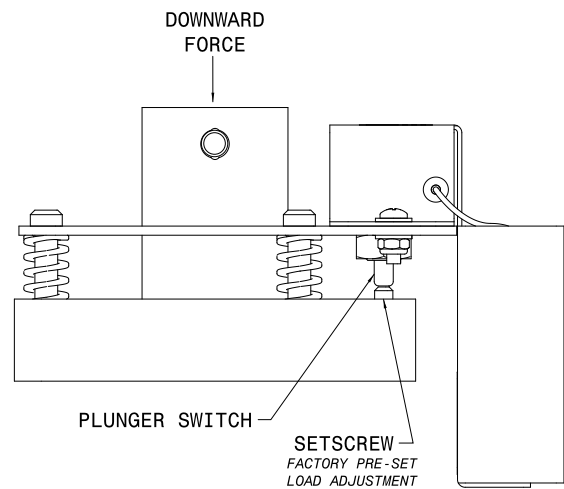

Figure 2
1. Depress the plunger switch to check electronic circuit. The alarm will sound when the switch is engaged. (see Figure 2)
2. Test alarm by slowly applying an evenly distributed force of 100 to 150 lbs (45.36 to 68.04 kg) across the top of the cradle. The top plate of the load alarm kit will lower and engage the plunger switch, A loud pulsating alarm will then sound. If alarm does not sound, refer to the Troubleshooting section. (see Figure 2)